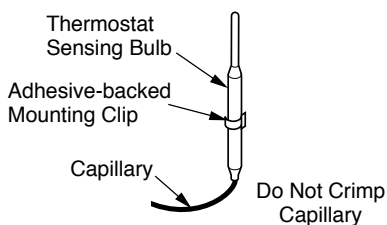

Figure 49 - Positioning the Thermostat Sensing Bulb in the Vertical Position with the Capillary at the Bottom
- The mounting clip must be a minimum of 3" from bottom of fireplace to prevent crimping of capillary. Once you have decided on a location, clean the area thoroughly. Remove the paper backing from the adhesive on back of mounting clip. Press the clip into the new location so that the thermostat sensing bulb will be positioned vertically with the capillary at the bottom (see Figure 49). Slide the thermostat sensing bulb into the clip.